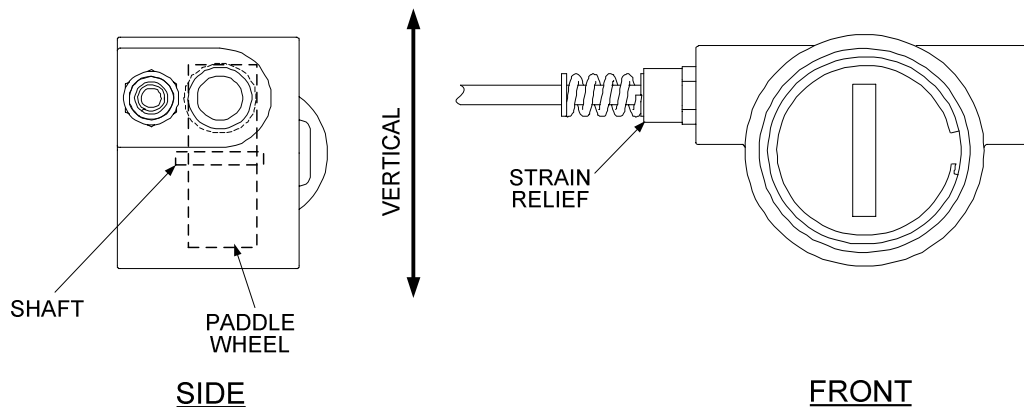

Figure 4-8. Flow Meter Orientation
Prior to installing the inlet or outlet tubes to the Flow Meter (step 2 of paragraphs 4.3.1 and 4.3.2), it will be necessary to first temporarily remove the strain relief assembly shown in Figure 4-8. After removal, perform the following steps:
2. Next, attach the strain relief to the Flow Meter cable (Figure 4-8).
7. Position the Flow Meter so that the Paddle Wheel is in the “Vertical” plane as shown in Figure 4-8. Tighten all Flow Meter connection fittings.
7. Position the Flow Meter so that the Paddle Wheel is in the “Vertical” plane as shown in Figure 4-8.